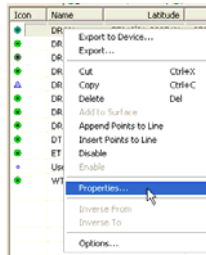

Figure 5-74. View Point Properties
1. Right-click the desired point and click **Properties** on the pop-up menu (Figure 5-74).